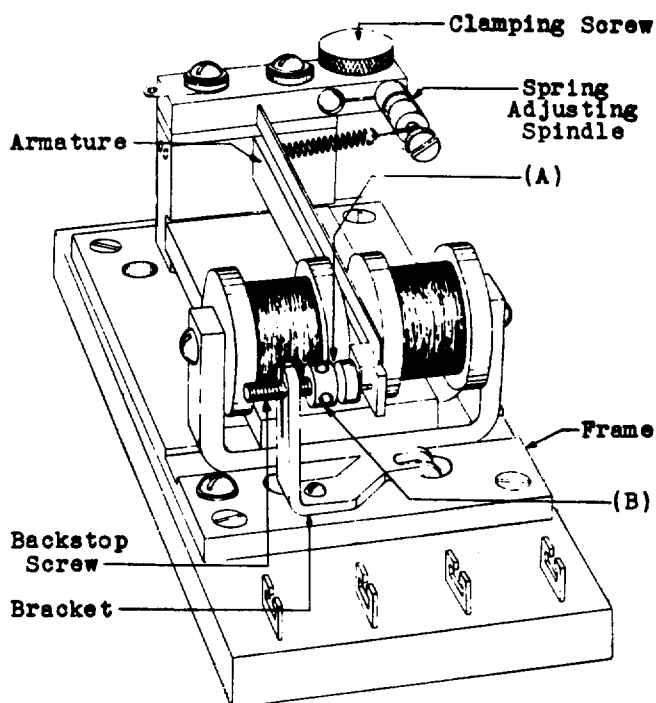

Fig. 4 - General View - No. 150-A Relay
- 2.08 Back Stop Gap - Fig. 4 (A) - The gap between the contact spring and the back stop screw on relays so equipped, shall be approximately .004". Gauge by eye.
- 2.09 Tightness of Back Stop Screw - Fig. 4 (B) - The back stop screw shall be held sufficiently tight in the